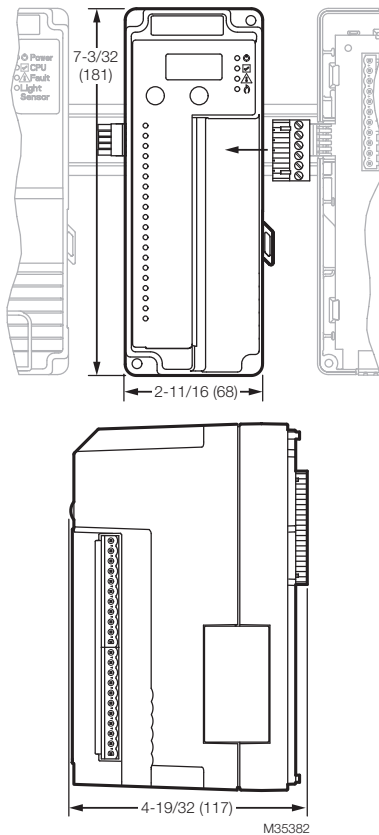

Fig. 1. Mounting dimensions of UV Visible Ampli-Check Flame Amplifier in. (mm).
**Dimensions:** See Fig. 1.
DIN Rail (See Fig. 1)